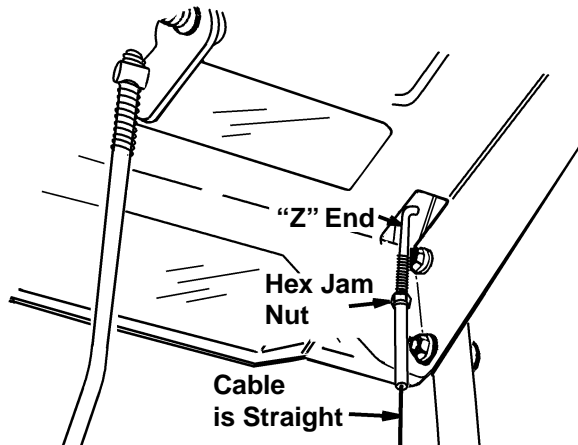

Figure 10
3. Thread the cable onto the threaded portion of the "Z" and until there is no slack in the cable, but the **cable is NOT tight. Do not overtighten cable.** See figure 10.
To check the adjustment of the auger drive clutch, push forward on the left hand clutch grip (depress the rubber bumper). There should be slack in the cable. Release the clutch grip. The cable should be straight. Make certain you can depress the auger drive clutch grip against the left handle completely. If necessary, loosen the hex jam nut and thread the cable in (for less slack) or out (for more slack) as necessary. Refer to figure 10. Recheck the adjustment. Tighten the hex jam nut against the cable when correct adjustment is reached.